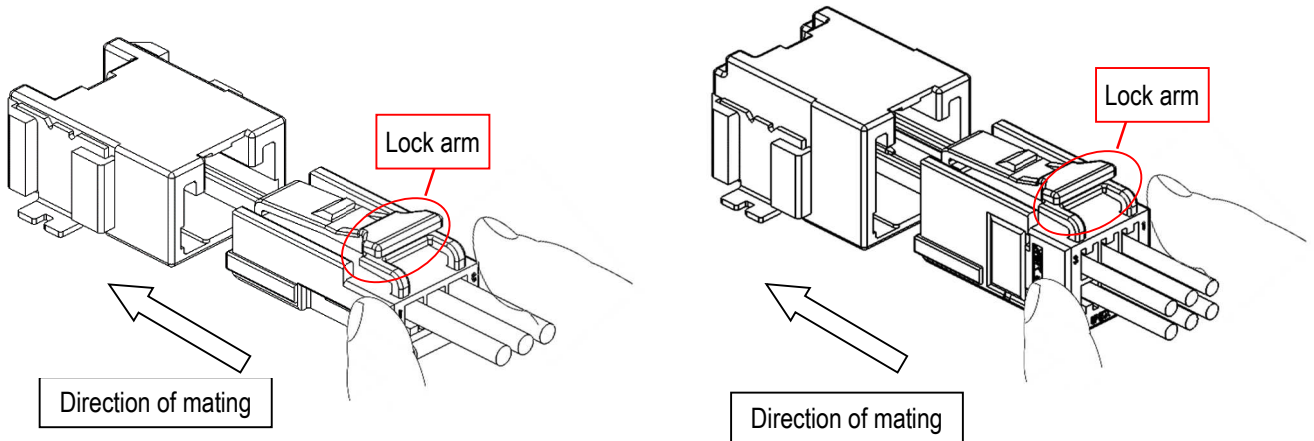

Fig50. Direction of mating
- ① Push the female connector that has been installed the secondary lock part and the retainer in the direction of mating until makes an audible click(see Fig.50).